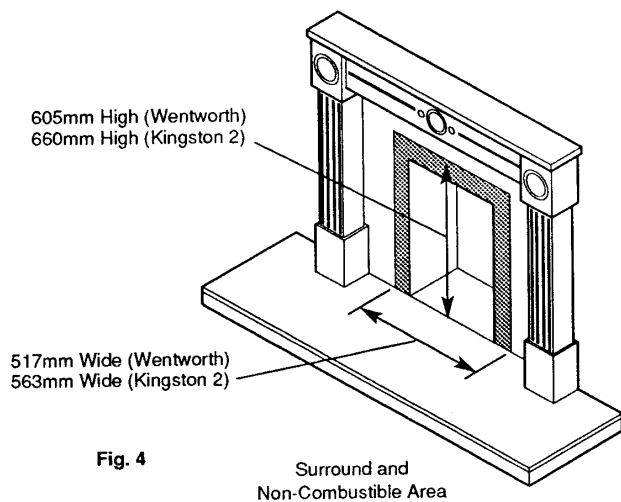

Fig. 4
3. The fireplace must have a flat vertical surface measuring 605mm (23 ¹³/₁₆ in) high by 517mm (20 ¹/₈ in) wide (Wentworth) or 660mm (26 in) high by 563mm (22 ⁵/₃₂ in) wide (Kingston 2), centrally placed about the opening. This allows an effective seal to be made between the wall and fire. **Also this area must be of non-combustible material.** If a fire surround is to be fitted its rear section must meet the same requirements. Any gaps between the wall and surround must be sealed (Fig. 4).